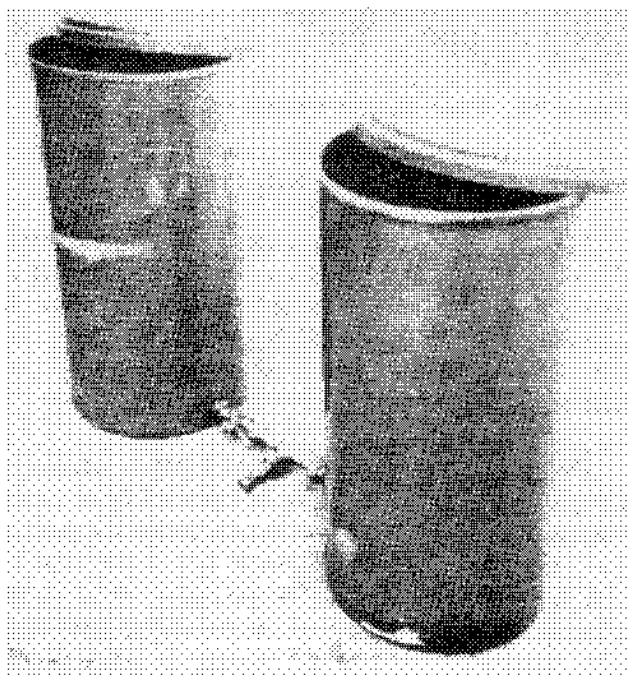

Figure 3-2. Dual mixing-tank arrangement
c. Two-tank system. A more advantageous method involves the use of two tanks with one tank containing the catalyst and the other tank containing all of the other components (Figure 3-2). In this method, material from both tanks are delivered into a common pump where the catalysis is initiated. The grout is then fed through a hose to the injection point. Pumping time is independent of gel time, which cannot be initiated until all components are mixed.